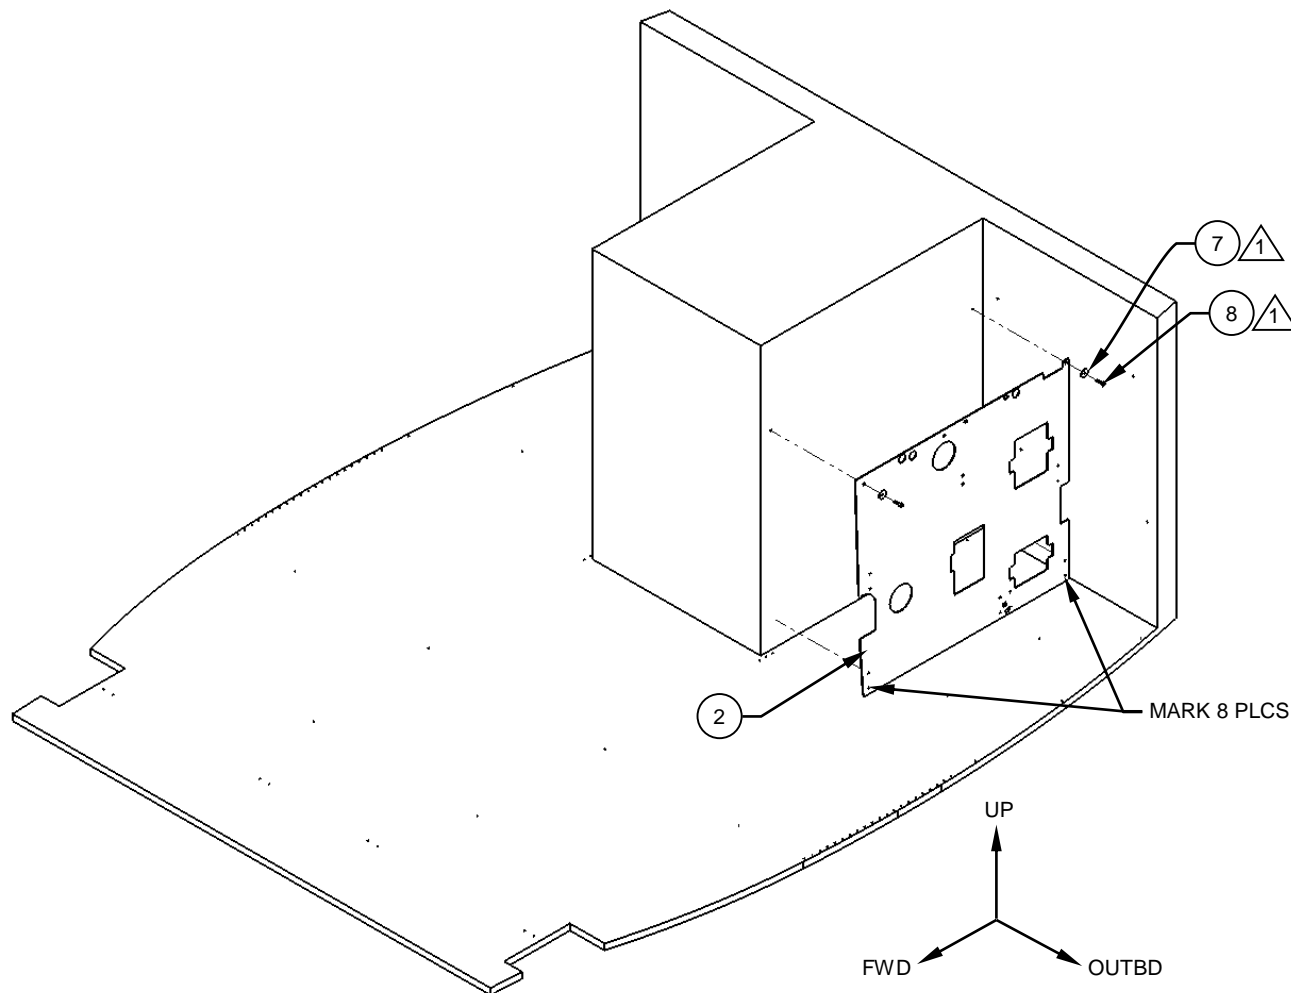

Figure 2
2. Remove any existing fasteners from coordinating inserts. Reference Figure 2.
3. Pre-fit the LHS Pylon Panel Protector, Assy (Item 2), with respect to the coordinating inserts. Temporarily install using supplied hardware, (Items 7 & 8). Reference Figure 2.
4. With the Pylon Panel Protector, Assy (Item 2) lined up use the pre-cut .25 holes and a felt pen to mark out the locations for the Velcro®, Details (Items 9 & 10) and remove the Pylon Panel Protector, Assy (Item 2). Reference Figure 2.
8. Re-install the LHS Pylon Panel Protector, Assy (Item 2), using supplied hardware, (Items 7 & 8). Reference Figure 2.